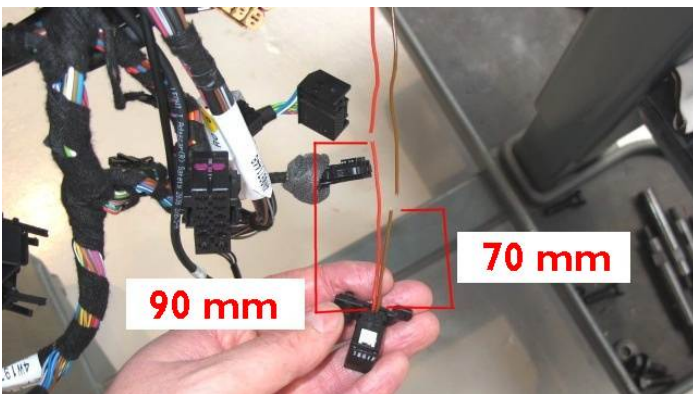

Figure 29
- Referring to Figure 29, the cables should be cut as follows: